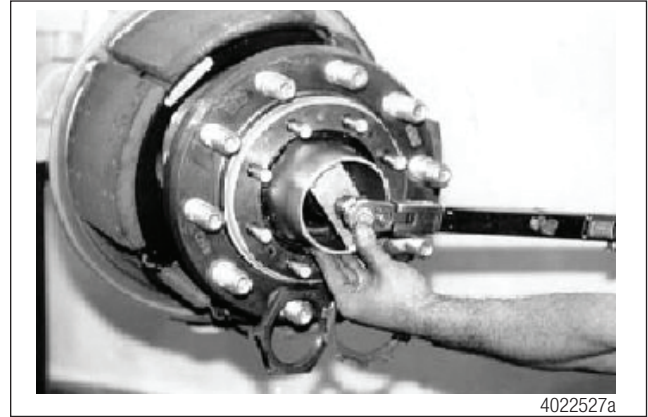

Figure 39
4. Install the inner bearing adjusting nut. Tighten the bearing adjusting nut to 50 lb-ft (68 Nm) while rotating the hub assembly. Loosen the nut and repeat this procedure 2-3 times to ensure that the bearings are correctly seated. After the final tightening, back off the nut 1/4 turn. Figure 39.